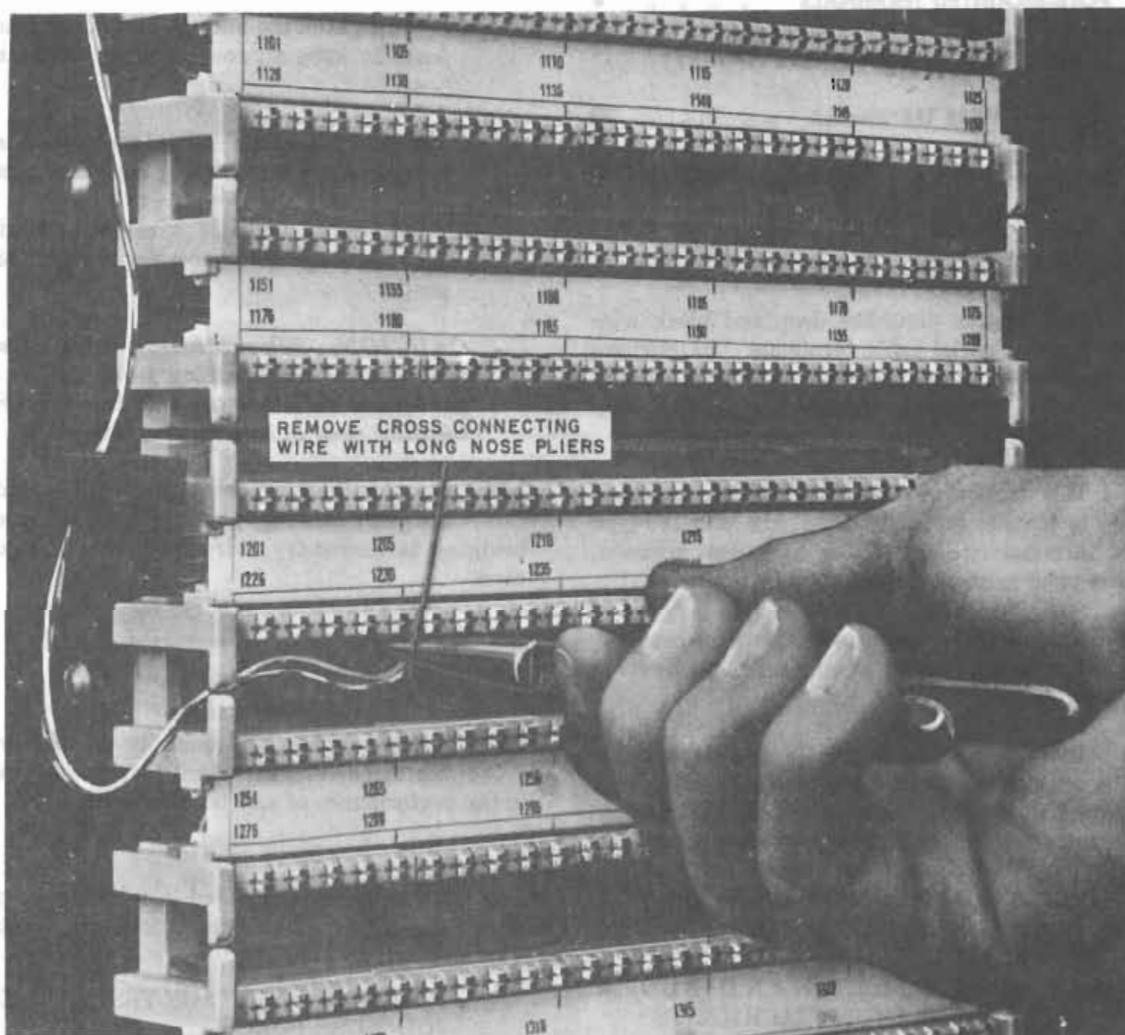

Fig. 11—Removing Cross-Connecting Wire
**4.01** Remove and discard waterproof cap, then remove the cross-connecting wire from the 88-type connecting block with long-nose pliers as shown in Fig. 11. *To prevent excessive buildup of cross-connecting wire, remove the disconnected cross-connecting wire from the serving area interface. This helps to maintain good housekeeping.*